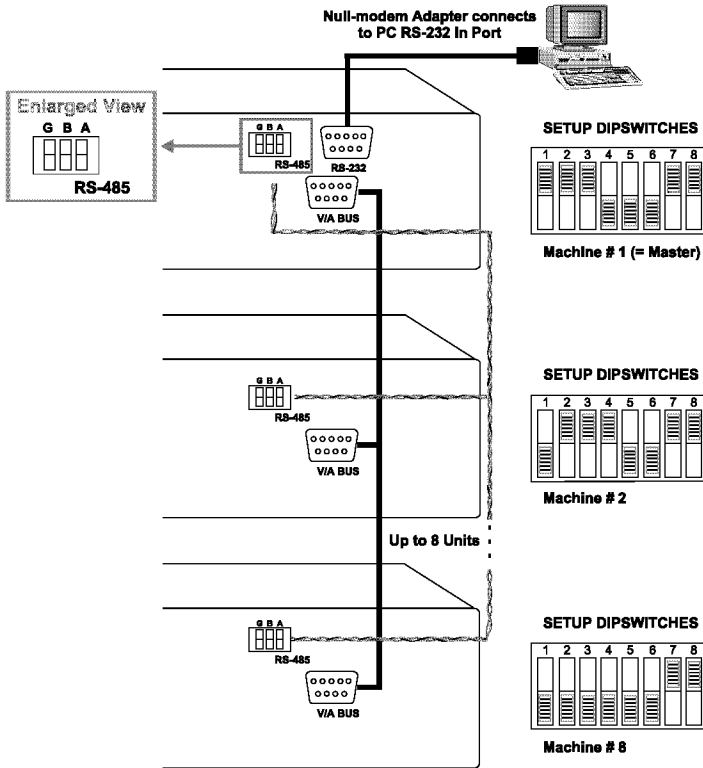

Figure 7: Cascading Units in an Input Expansion Configuration
You can cascade up to 8 interconnected **VS-402xl/VS-602xl** units to form an input expansion configuration. For example, to create a 48 x 2 switcher, with 48 inputs and 2 outputs, connect as Figure 7 illustrates.
3. Connect the RS-485 terminal block port on the first **VS-402xl/VS-602xl** unit to the RS-485 port on the second **VS-402xl/VS-602xl** unit and so on, connecting all the RS-485 ports, as Figure 7 illustrates.
4. Interconnect the *V/A* (video/audio) *BUS* DB9F connectors between the **VS-402xl/VS-602xl** units2, as Figure 7 illustrates, using a 9 wire flat cable3 with DB9M connectors, as follows: